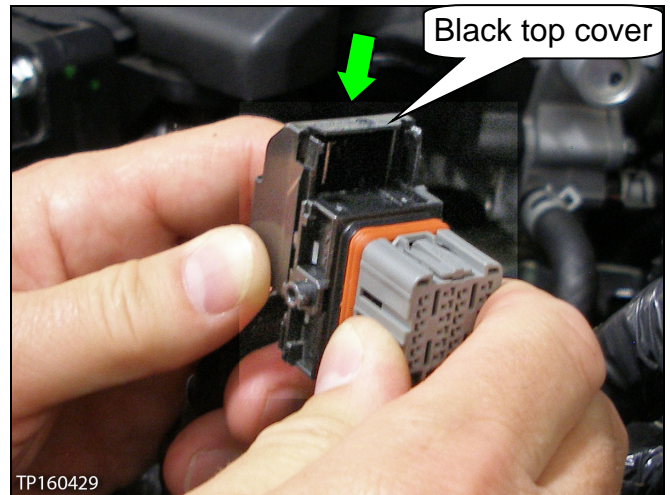

Figure 25
23. Install a new black top cover from the harness kit (see Figure 25).